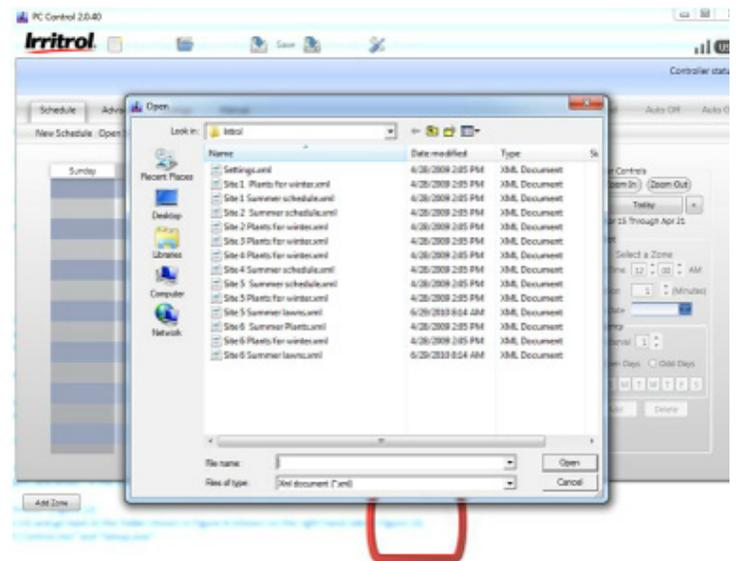

Figure A3.4
9. All files should be present and ready to use (Figure A3.4).